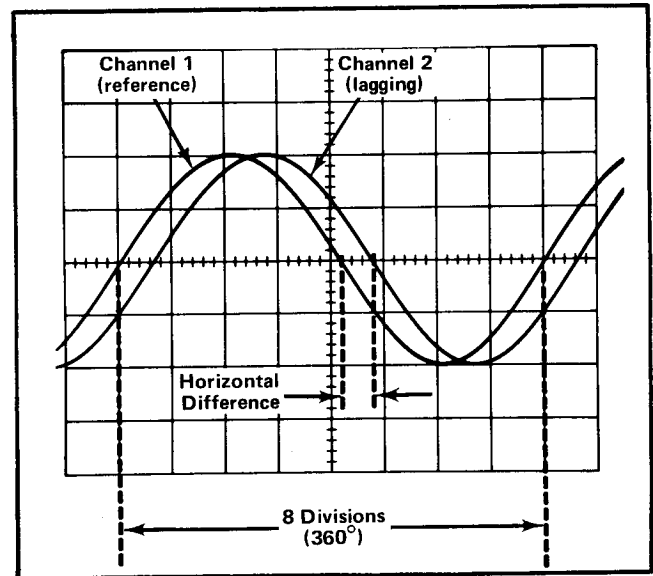
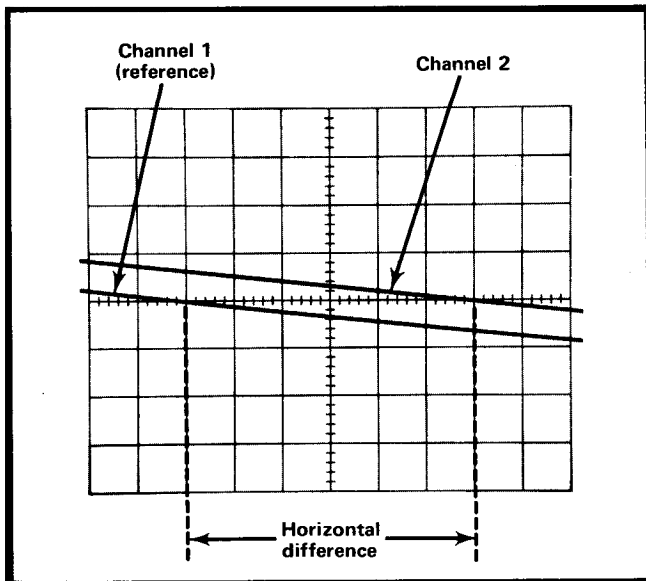

Fig. 2-4. Measuring phase difference between two signals.
Fig. 2-5. High resolution phase measurement using sweep magnifier.
8. Adjust the time-base Variable Sweep Rate until one cycle of the reference signal occupies exactly eight horizontal divisions between the second and tenth vertical lines of the graticule (see Fig. 2-4). Each division of the graticule represents 45° of the cycle (360° ÷ 8 divisions = 45°/division). The sweep rate can now be stated in terms of degrees as 45°/division.
EXAMPLE: Assume a horizontal difference of 0.3 division with a sweep rate of 45°/division as shown in Fig. 2-4. Using the formula:
EXAMPLE: If the sweep rate is increased 10 times by the Magnifier, the magnified sweep rate is 45°/division ÷ 10 = 4.5°/division. Fig. 2-5 shows the same signals as used in Fig. 2-4 but with the Magnifier set to X10. With a horizontal difference of 3 divisions, the phase difference is: